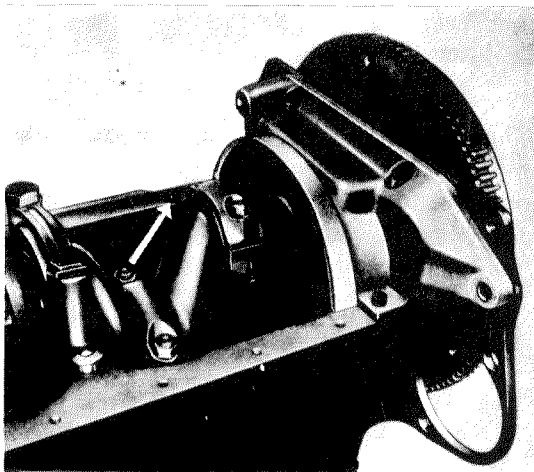

Fig. 01-4/57
4. If the oil pan is removed only in order to remove the oil pump or to check the connecting rod bearings, the rear part of the oil pan need not be unscrewed (Fig. 01-4/57). If complete removal is necessary, first unscrew the cover plate for the clutch housing, then unscrew the two M 10 fixing screws fixing the clutch housing to the oil pan as well as the two long and two short fixing screws on the oil pan rear part and remove the oil pan.